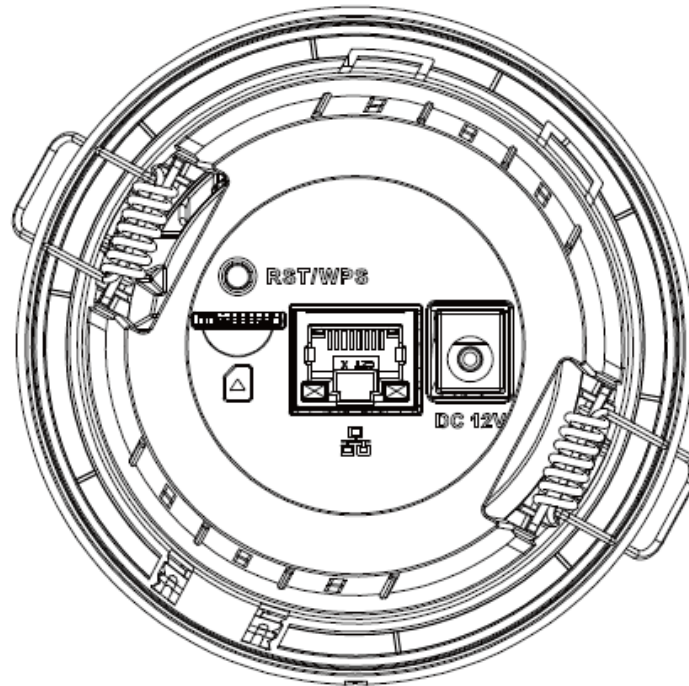

Figure 2-2
Step 3 (Optional) Insert the Micro SD card into the SD card slot according to the direction shown in Figure 2-2.